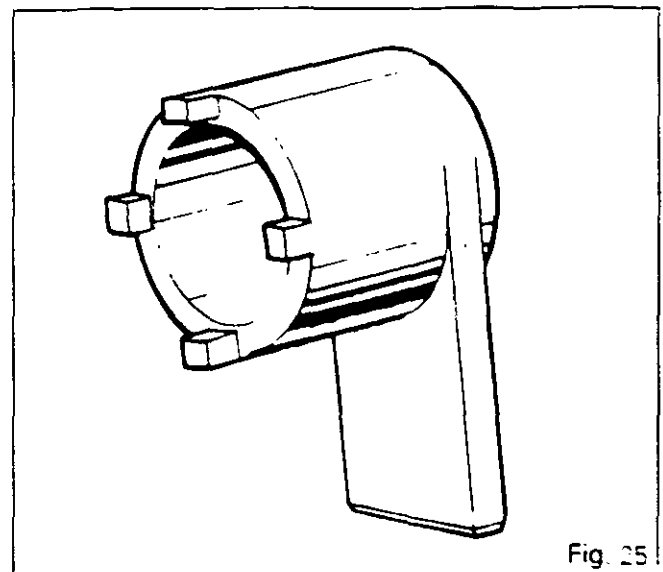

Fig. 25
- 3376881 M1 Special spanner for slotted nut of bevel drive pinion, cat. 2.5 and 3.5 axles (Fig. 25)
- 3376927 M1 Special spanner for slotted nut of bevel drive pinion, cat. 1 and 2 axles (Fig. 25)